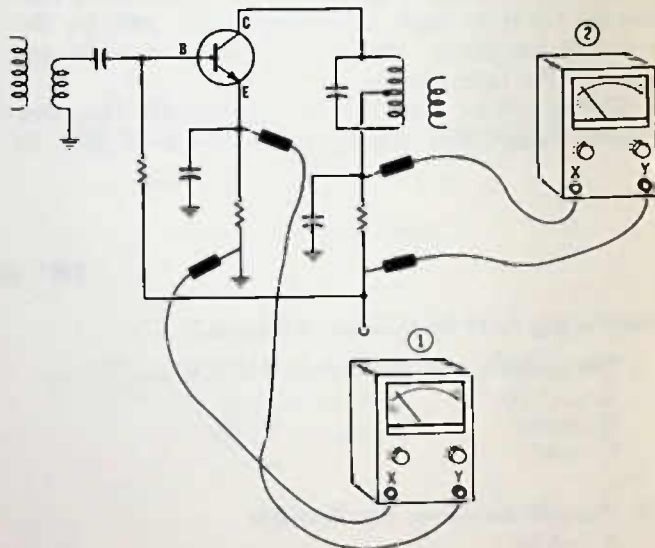

Fig. 14-19. Circuit for Questions 12, 13, and 14.
12. In Fig. 14-19, two ways are shown that a meter may be connected to read the collector current flow in a transistor (collector current flow and emitter current flow are almost identical; the emitter has a tiny amount more due to the base current but it is not significant so far as testing is concerned). If you wish to test a transistor stage, first, measure the voltages, then temporarily jumper a 1K or so resistor between the collector and base, or between the base and emitter. In Fig. 14-19 if you connect the resistor between B and C (assuming the transistor is all right and the circuit otherwise normal),
14. In a transistor circuit such as Fig. 14-19, if you connect a resistor between B and E, the voltage drop across either a collector-circuit or an emitter-circuit resistor should, assuming the transistor and circuit are working normally,